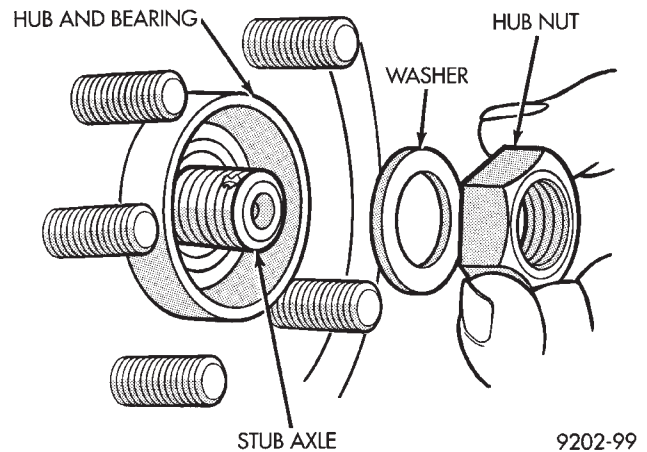

Fig. 54 Front Stub Axle Nut And Washer
(11) Clean all foreign matter from the threads of the outer C/V joint stub axle. Install washer and hub nut (Fig. 54) onto stub axle and tighten nut.